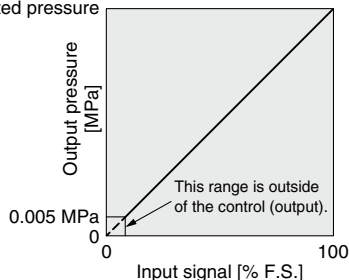

Fig. 1 Input/output characteristics chart
- *1 Please refer to Fig. 1 for the relationship between set pressure and input. Because the max. set pressure differs for each pressure display, refer to page 58.